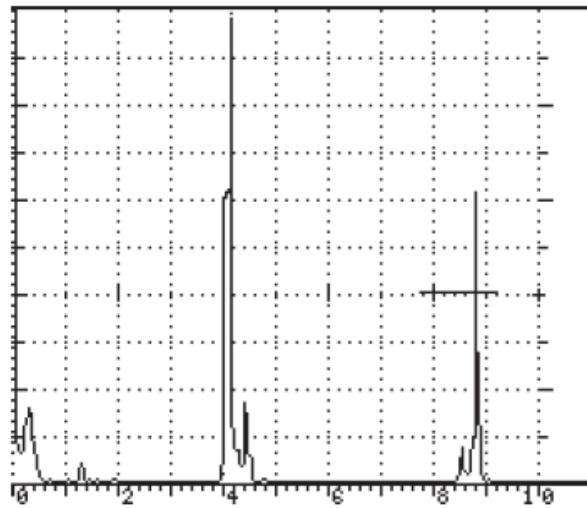

Figure 5-48
- d) Place the transducer on the calibration block and peak out the thickest (farthest) echo by swiveling the transducer. Press the THK CAL softkey, and rotate the SmartKnob™ until the THK CAL value for CAL PT1 reads 9.00 inches. Press the ENTER key to log this value. (see **Figure 5-48.**)